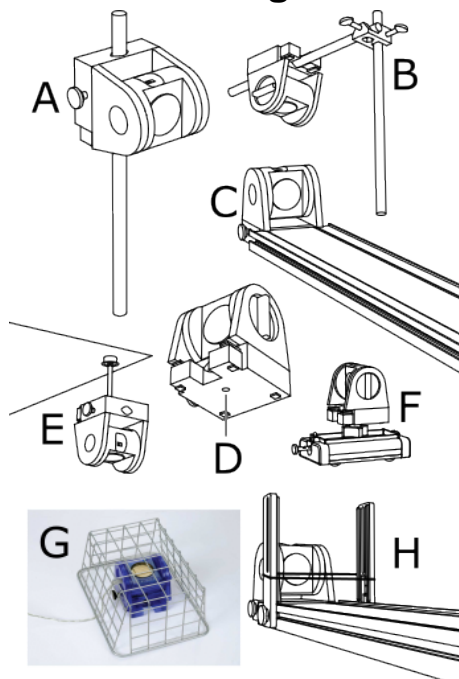

Figure 1. A variety of options for mounting the Motion Sensor II
As illustrated in Figure 1, the Motion Sensor II can be mounted on a vertical rod (A) or a horizontal rod (B).